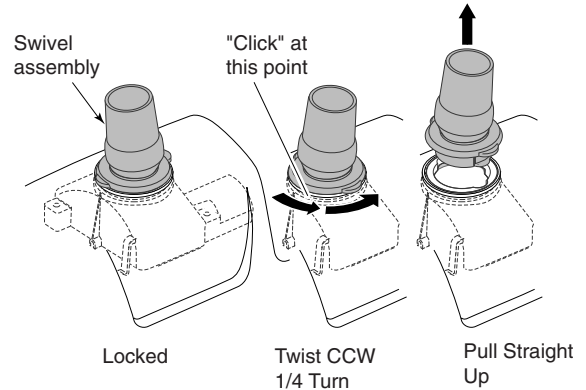

Figure 19
1. Remove swivel assembly (Figure 19) from the top of the cleaner by turning it 1/4-turn counterclockwise and pulling straight up on it.